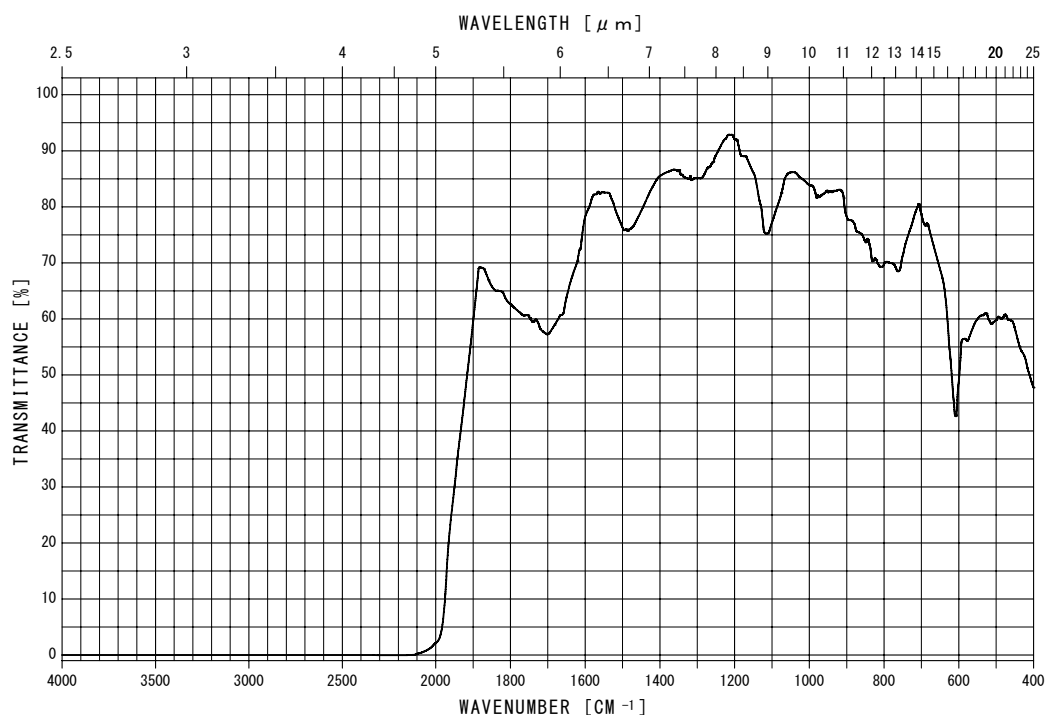

Fig. 4 : Typical Transmission Characteristics of Filter
5.3. Transmission Characteristics of Filter	See Fig. 4